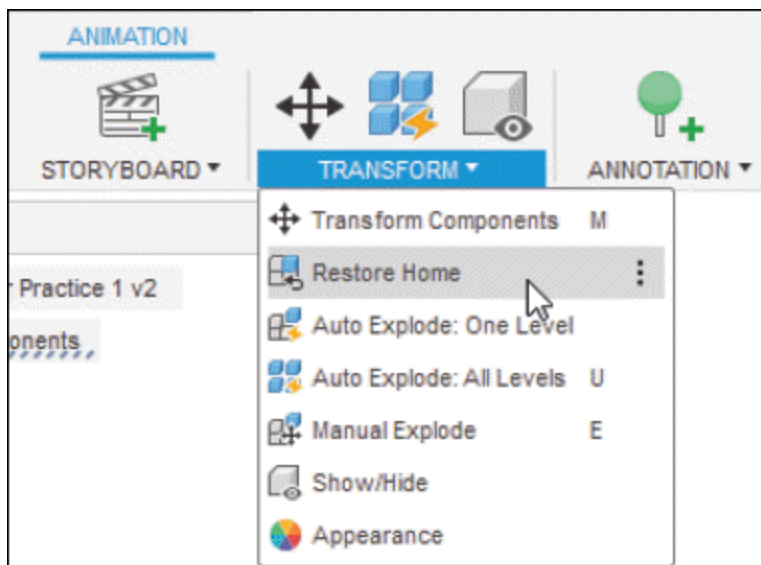

Figure-39. Restore Home tool
- Click on the **Restore Home** tool from **TRANSFORM** drop-down; refer to Figure-39. The position of model will be restored.